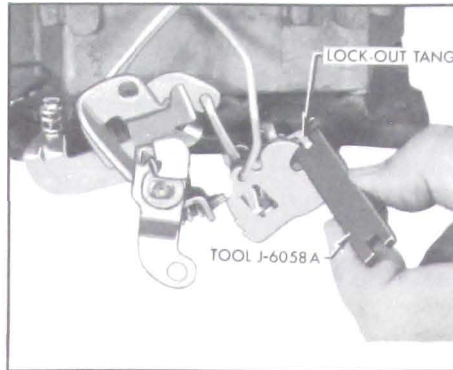

Figure 3-78—Adjusting Secondary Contour
8. If clearance between tang and contour is not correct, bend tang as required to obtain this clearance using Tool J-6058-A. See Figure 3-78.